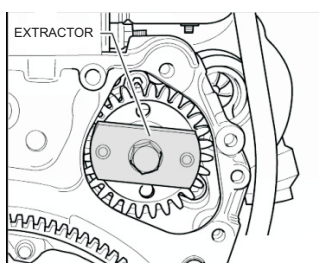

FIG. 4
- 8 Remove the water pump gear with the extractor [FIG. 4].